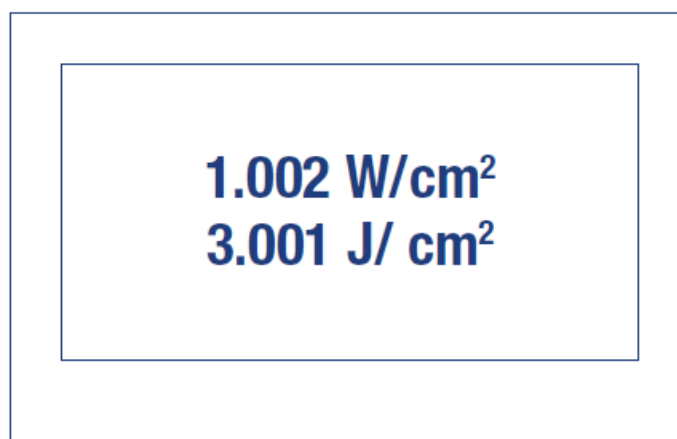

Figure 3 "Data Mode" with Detector Connected - Integration ON
- The Int button enables the dose integration. The integrated dose is in the space shown below the instantaneous measurement result (Figure 3).